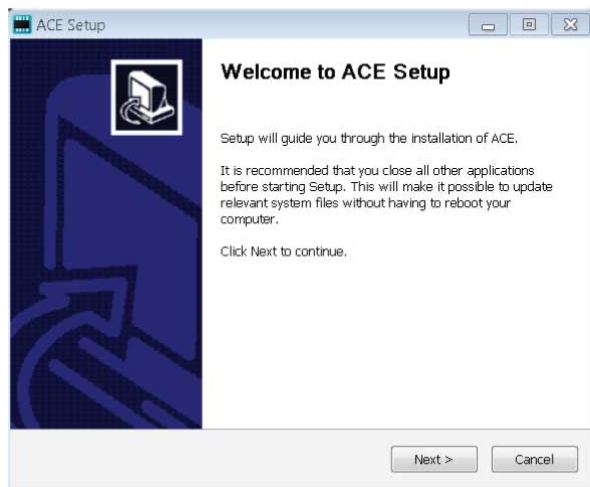

Figure 8. Evaluation Software Install Confirmation
4. In the **ACE Setup** window, click **Next >** to continue the installation, as shown in Figure 8.